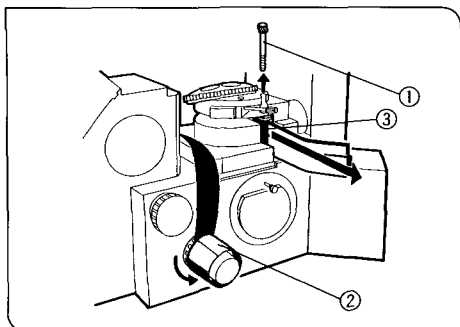

Fig. 1
1. Before use, using the Allen wrench provided with the microscope frame, loosen the screw ① securing the clamping rod holding the focusing controls clamped to protect them during transport. (Fig. 1)
2. Remove the screw and the caution tape ② around the focusing adjustment knobs. Then rotate the coarse adjustment knob counterclockwise (in the direction of the arrow), and remove the rod ③ holding the focusing controls. (Fig. 1)